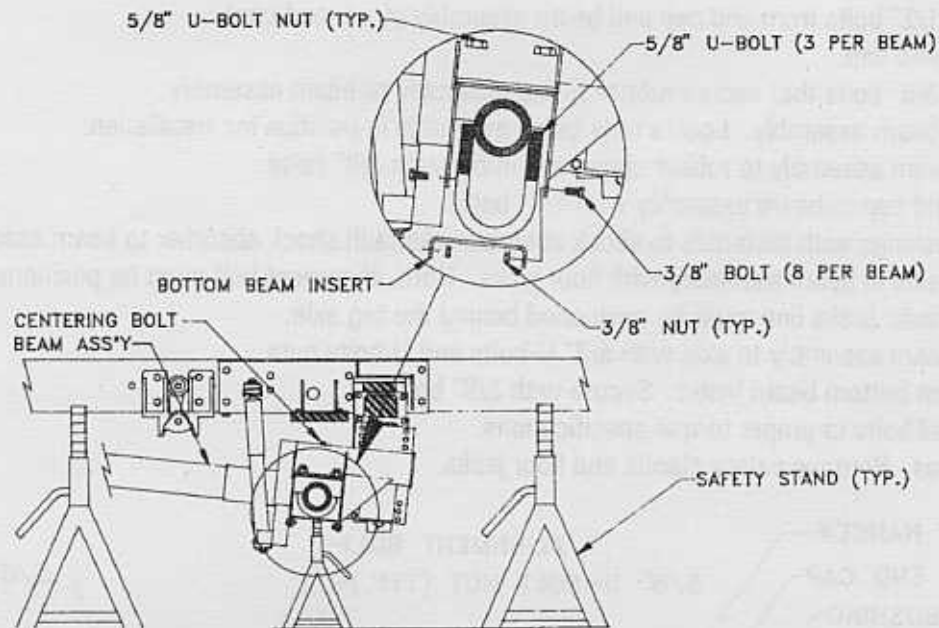

Figure 9: U-Bolt Replacement
- 3.) Remove 3/8" bolts (eight (8) per beam assembly) from beam assembly and bottom beam insert (See Figure 9).
- 7.) Repeat steps 5 and 6 for all U-bolts that must be replaced, there are three (3) U-bolts per beam assembly.
- 4.) Remove 3/8" bolts (eight (8) per beam assembly) from beam assembly and bottom beam insert (See Figures 9 and 10).